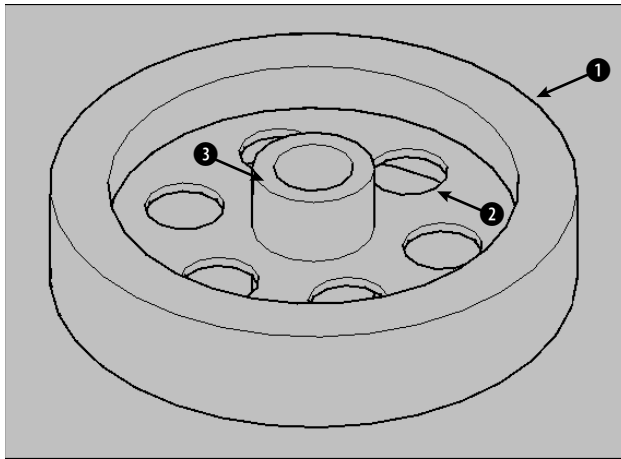

**Figure 24-23:** The result of three subtraction operations.
7. Change the visual style to 3D Hidden (choose 3D Hidden from the Dashboard’s Visual Styles control panel). This enables you to check the effects of the subtraction operations. Your drawing should look like Figure 24-23.
8.  Choose Union from the Modeling toolbar. Select the three solids at ①, ②, and ③ in Figure 24-23 and right-click to end selection.